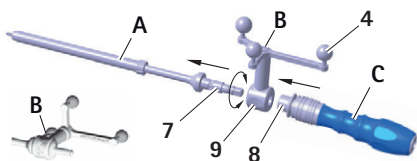

Fig. 6 Mounting the reference star unit ("pre-calibrated") and S4C handle onto the S4C taper
- ▶ Release locking sleeve 8, see Fig. 6. Check that the S4C handle is engaged.